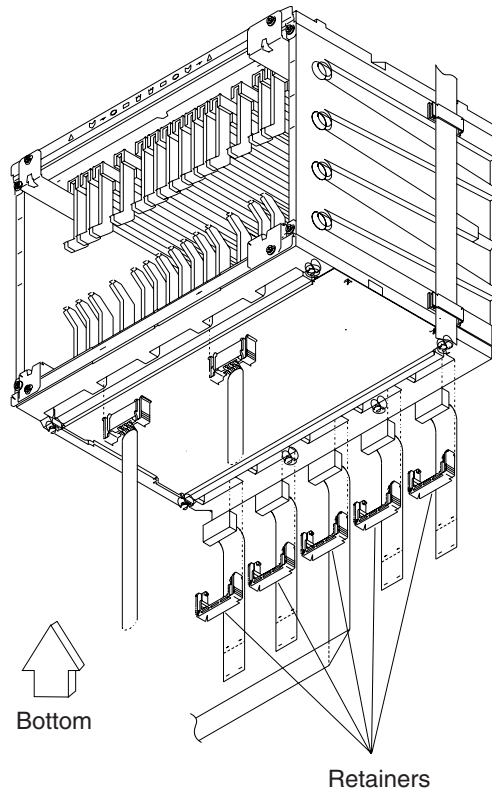

Figure 4-159. Lower View of the SAC Gate Assembly
- d. Refer to Figure 4-159. Check if the cables are labelled according to their positions. If they are not, label them. Remove the retainers and the cables from the Y and Z rows.
4. Refer to Figure 4-159 on page 4-171. At the rear side, do the following: